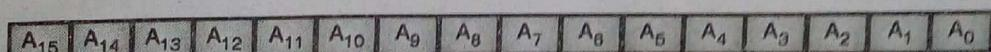

Fig. 13.4 : DMA address register
- (a) **DMA address register :** It is a 16 bit register. It is used to hold the starting address of memory. This register is incremented after each DMA cycle. If the address register is read in the middle of a DMA operation, it provides the address of next memory location. The format of address register is as shown in Fig. 13.4. A memory address must be programmed before the channel is enabled.